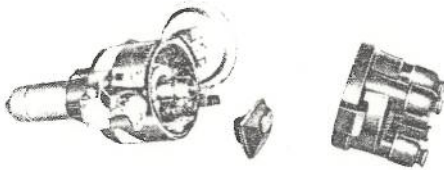

Fig. 10-71
- (1) Remove the cap and take out the rotor. (Fig. 10-71)